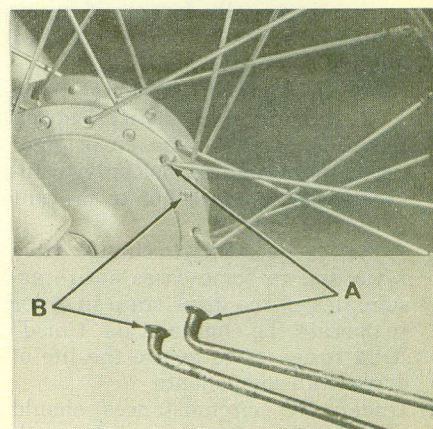

Fig. 2-52—Inner spokes (B) and outer spokes (A) may have different radius bend at head.
called inner and outer spokes (Fig. 2-52). Outer spokes (A) tend to have more of a right angle bend while inner spokes (B) have a smaller angle bend. Inner and outer spokes are identical on some wheels but on units where the spokes are different they must be installed correctly.